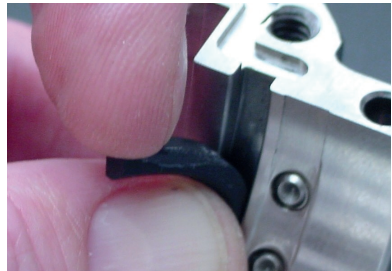

Figure 9
- 3.4 Pull back 0.50 inch (12.7 mm) of the sleeve gasket and use a paper clip to put two dots of adhesive in the groove approximately 0.25 inch (6.35 mm) and 0.50 inch (12.7 mm) from the seal drive joint surface. See Figure 9.